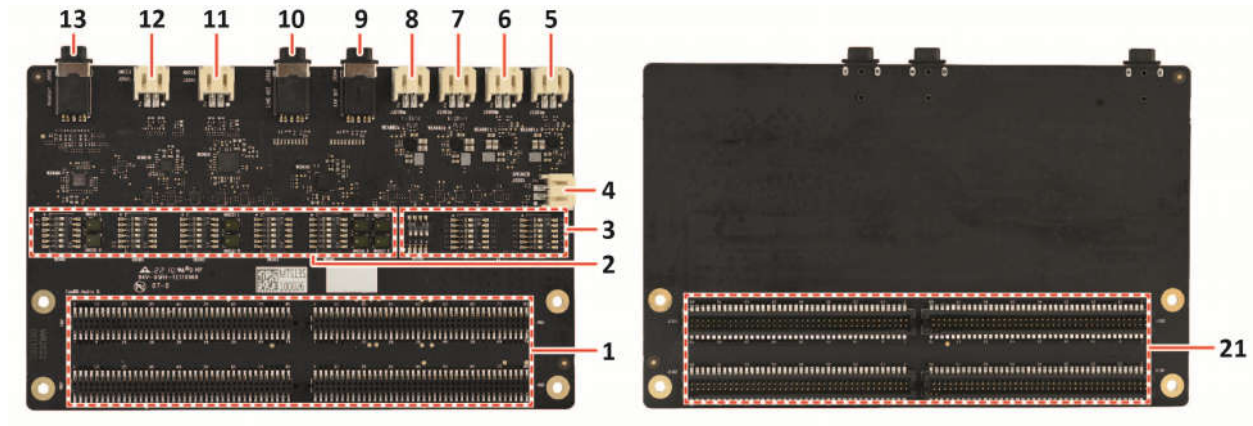

Figure 1-4. Audio Board Overview
Step 1. Connect the device (via the **UART debug port**, No. 2 in Figure 1-4) to a PC with a Micro USB cable.